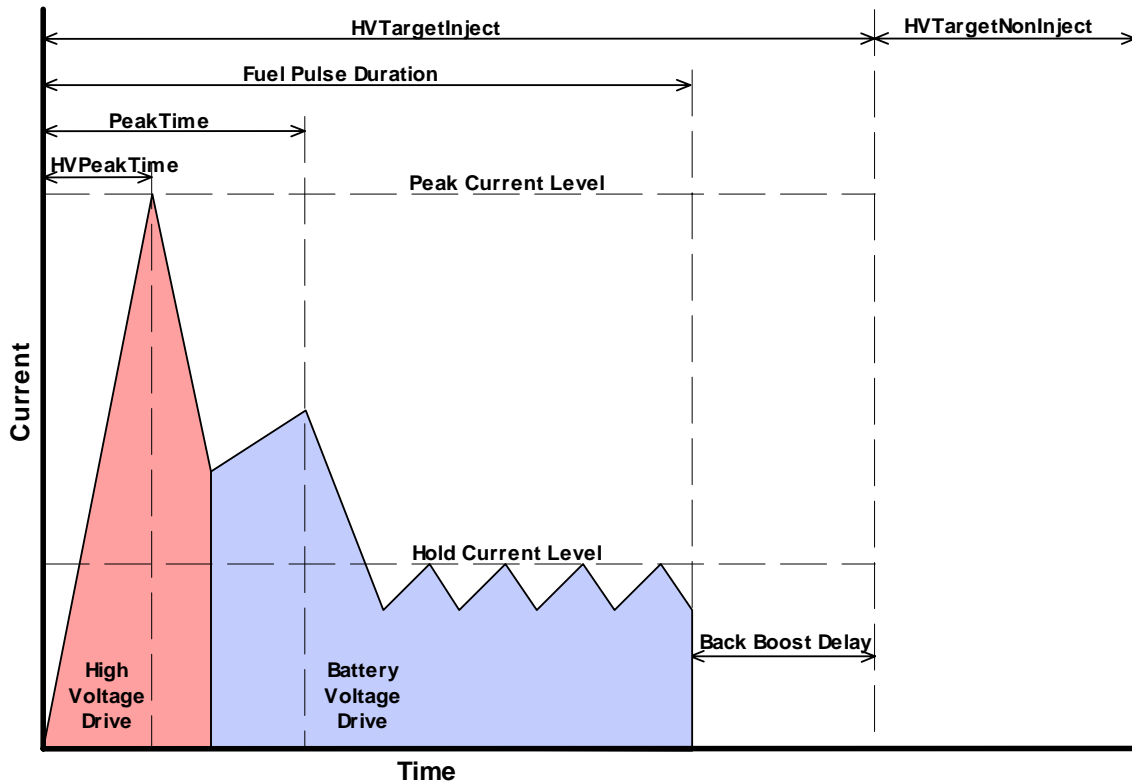

Figure 4. Injector solenoid current profile with labeled control parameters.
**Step 3: Make calibration assignments.** There are seven calibration values with which we need to be concerned. Each one will be described below in reference to the current profile shown in figure 4. The parameters contained within the UserCalParams cluster are parameters which are communicated once to the module upon setting the CalibrateNow boolean. The UserCalParams cluster contains six parameters which are discussed below. The PeakTime (msec) parameter, found on the Injection Control tab, is continuously communicated to the module.
**HVTargetNonInject (V):** This is the nominal working voltage target of the internal power supply and is maintained while injection events ARE NOT taking place. It can be in the range of 12V to 150V. This voltage is used to drive the first current peak through the injector solenoid. This value should be set to the peak voltage value obtained from the OEM injector operation. Higher values for HVTargetNonInject will achieve the first peak current point faster. However, maintaining higher working voltages is less efficient for the internal power supply. If an external power supply is used, then HVTargetNonInject can be set to zero.
**HVTargetInject (V):** This is the working voltage target of the internal power supply which is maintained while injection events ARE taking place. It can be in the range of 12V to 150V, but cannot be higher than HVTargetNonInject. This calibration parameter can be used to prevent internal power supply overcharging due to injector solenoid back-boosting. Please refer to the section titled **Preventing Back-Boost Overcharging** for further information. In general, this parameter can be initially set equal to HVTargetNonInject (V). Then, it can be reduced gradually, if necessary, to prevent overcharging. If an external power supply is used, then HVTargetInject can be set to zero.
**PeakCurrent (A):** This is the current level which will be targeted by the injector driver circuit during the PeakTime (msec) period. Remember that the high voltage portion of the current profile is primarily based on HVPeakTime (msec). PeakCurrent (A) is only a backup during the high voltage phase since current is not sensed fast enough to be effective. PeakCurrent (A) is used as a target current level primarily during the battery voltage phase of the PeakTime (msec) period. This value should be set to the peak current level obtained from the OEM injector operation.
**HoldCurrent (A):** This is the current level which will be targeted by the injector driver circuit after the PeakTime (msec) period expires, until the end of the injection pulse. The HoldCurrent (A) is always driven using battery voltage. This value should be set to the hold current level obtained from the OEM injector operation.